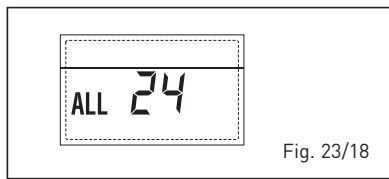

Fig. 23/18
- **SOLAR PROBE ERROR STORAGE TANK (S2) "ALL 25" (fig. 23/19)**